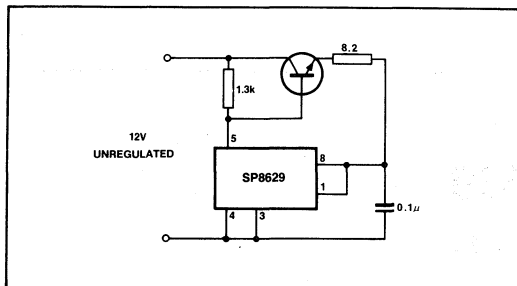

Fig.8 Use of on-chip zener diode for operation from unregulated supply
- The on-chip Zener diode allows a simple stabilised power supply to be constructed with the addition of a few extra external components, as shown in Fig. 8, to the SP8629.